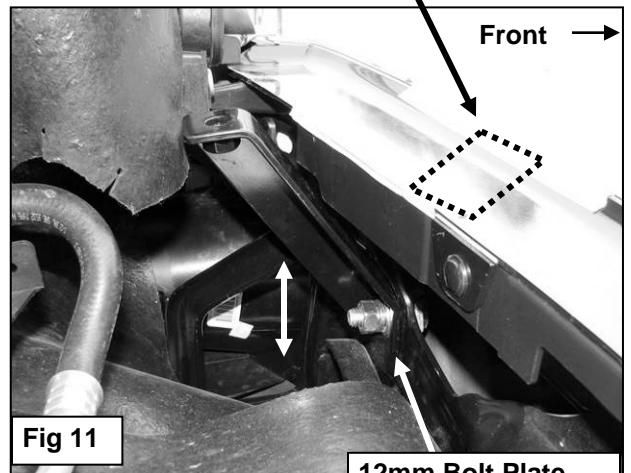

Fig 11
12mm x 35mm Bolt Plate down and into the gap at the top of the bracket and out through the hole with the threaded end of the Bolt Plate facing to the rear toward the radiator, **(Figs 10A & 10B)**. Slide the lower end of the driver side Top Support Bracket, (end with hole), over the Bolt Plate. Secure the Bracket to the Bolt Plate with (1) 12mm Flat Washer, (1) 12mm Lock Washer and (1) 12mm Hex Nut, **(Fig 11)**. **IMPORTANT:** Do not tighten hardware at this time.
NOTE: Before proceeding, cover the top of the plastic bumper, (driver and passenger sides), with removable tape, (masking tape for example), to protect the bumper during Top Bracket installation, **(Fig 11)**. Next, apply a section of the included Adhesive Backed Foam Tape to the bottom of both Top Brackets to prevent damage to the painted finish on the vehicle, **(Fig 13)**.
NOTE: It may be necessary to raise or lower the height of the Top Bracket to fit properly between the grille and the top of the bumper. Loosen the 12mm Hex Nut attaching the bottom of the Support Bracket to the Bolt Plate, **(Fig 11)**. Move the Top Bracket up or down as needed to clear the top of the bumper and line up with the Grille Guard before tightening the hardware. Do not fully tighten Top Bracket hardware until after all hardware has been installed and the Grill Guard properly aligned and adjusted.